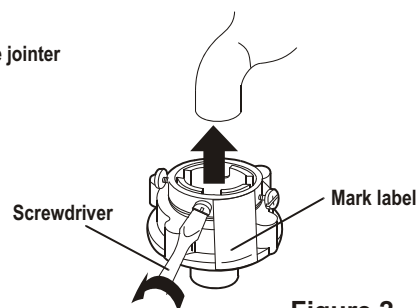

Figure 2
2. Loosen the screw till the water faucet can be accessed. Put the jointer of the water inlet hose on the faucet. See to Figure 2. (If the faucet is too large and the jointer can not be set on the water faucet, please loosen the four screws and take out the bushing in the jointer. See to the figure.)